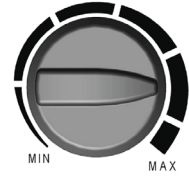

FIG. 4
- The temperature in the room may be set by means of the control knob (Fig. 4). Once the pre-set temperature is produced, the thermostat will automatically switch the heating elements off while the fan will continue to operate thus protecting the appliance from overheating. If the temperature falls down beyond the pre-set value, the system will